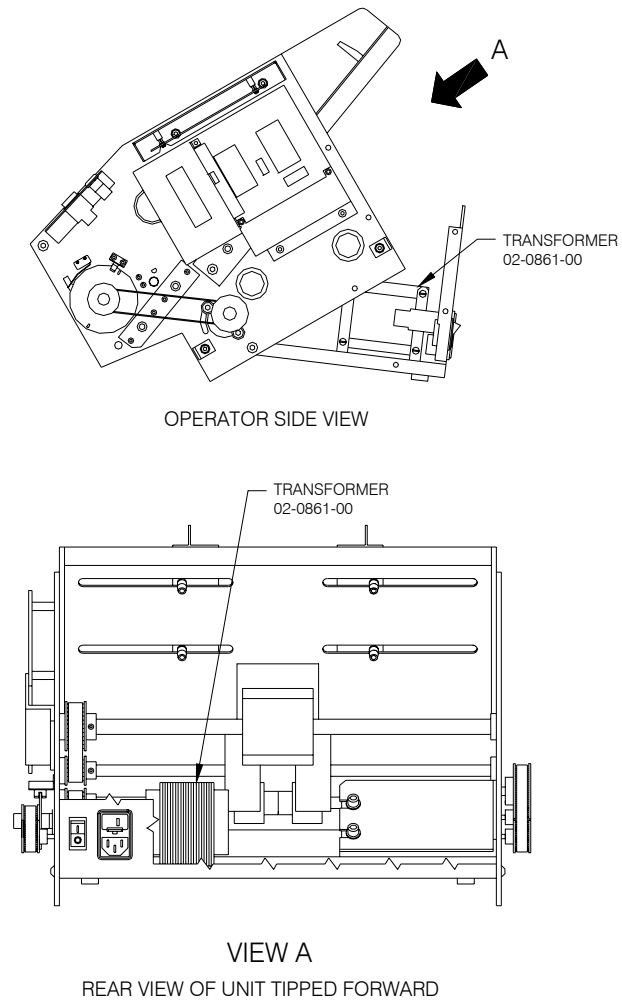

Figure 7.26 -- Replacing A Transformer
2. Unplug all CONNECTORS from the TRANSFORMER. (Refer to **Figure 7.26.**)
4. Replace the TRANSFORMER. (Refer to **Figure 7.26.**)